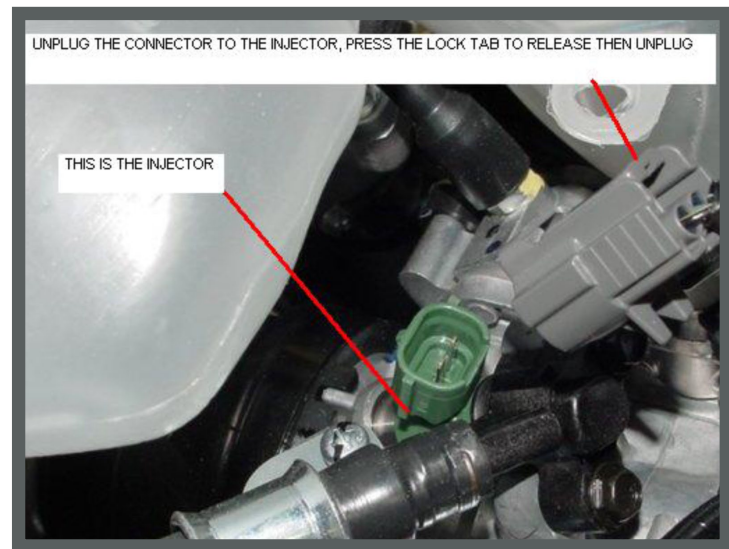

Figure 2
5. Unplug the grey connector from the **Fuel Injector**. (See Fig 2)